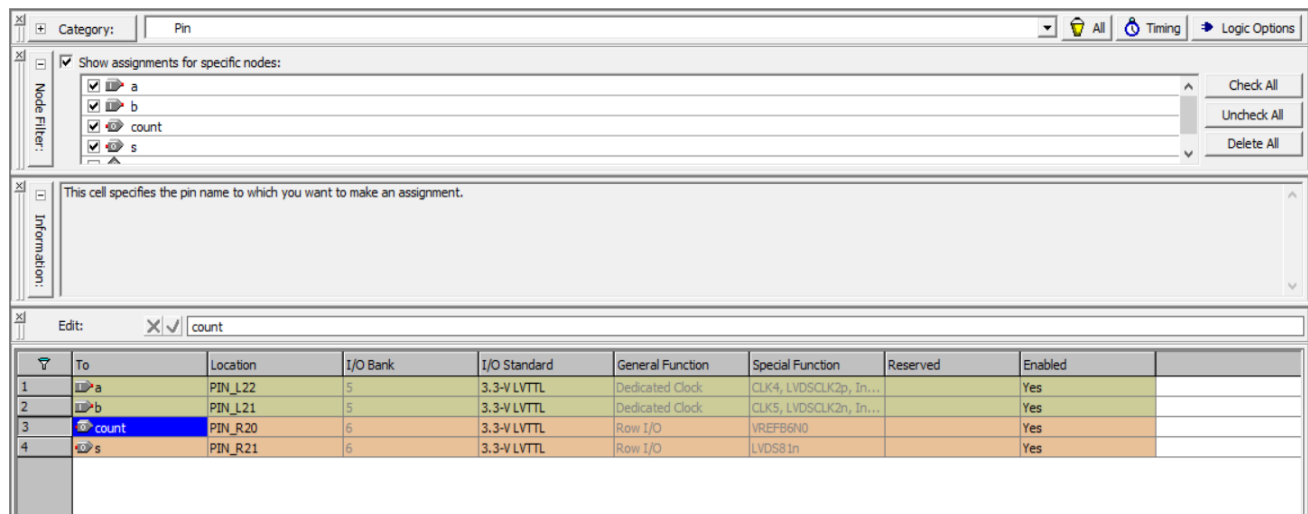

Figure 8.29: choose inputs and outputs in board.
- Select Pin in the category and select a switch for input. After that save the pin assignment. Then the pins will appear in diagram as shown in Figure 8.29.